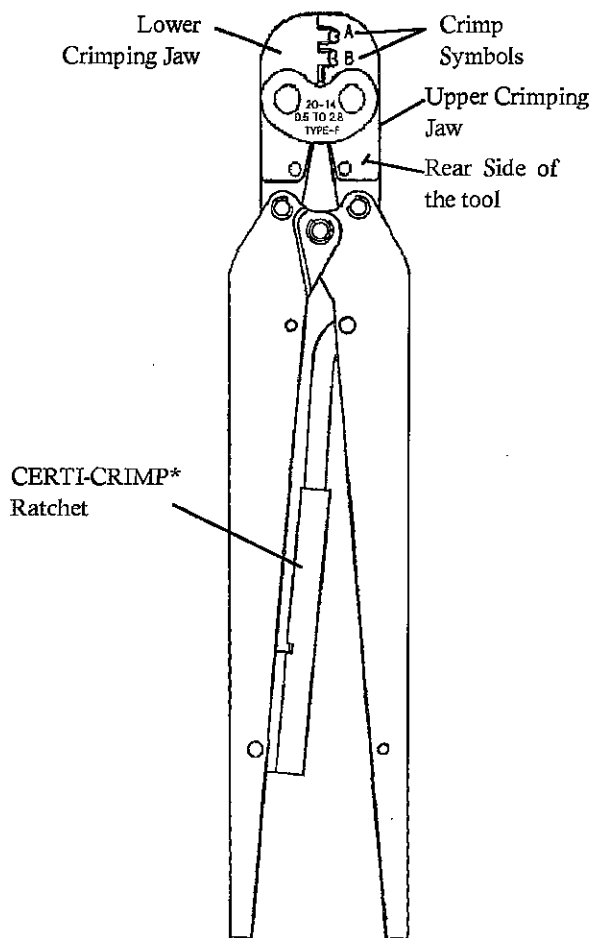

Fig.1
1. The tool (see Fig.1) covered by this Instruction Sheet, crimps the applicable terminals listed in the table (Fig.2) below. These terminals can accept the stranded wires of the listed range. Use these terminals only, purchased as "Loose Piece Form" from Tyco Electronics AMP K.K. Read this Instruction Sheet carefully before you crimp terminals.